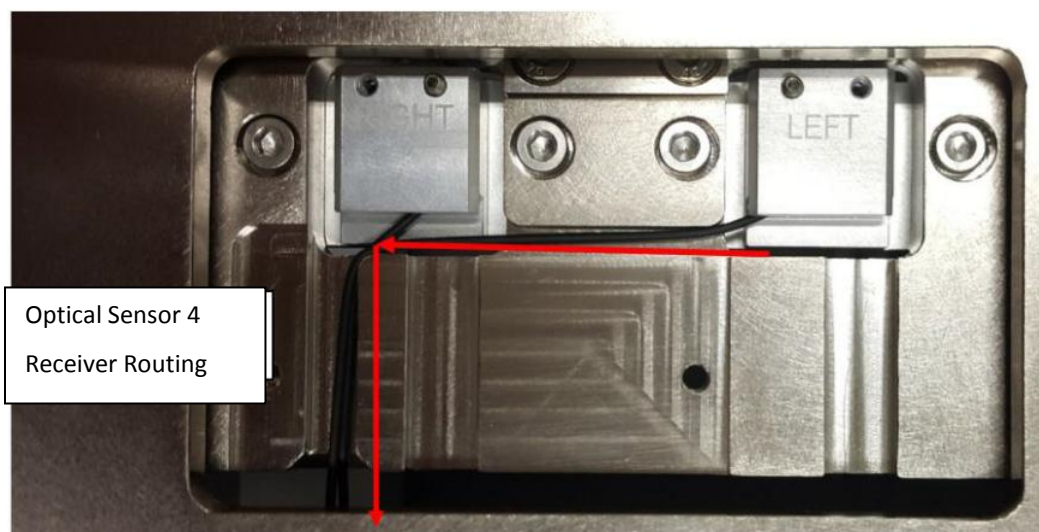

Figure 41 Optical PIP Sensor 4 Routing
6. The routing for Optical PIP Sensor 4 Receiver as shown in Figure 41.